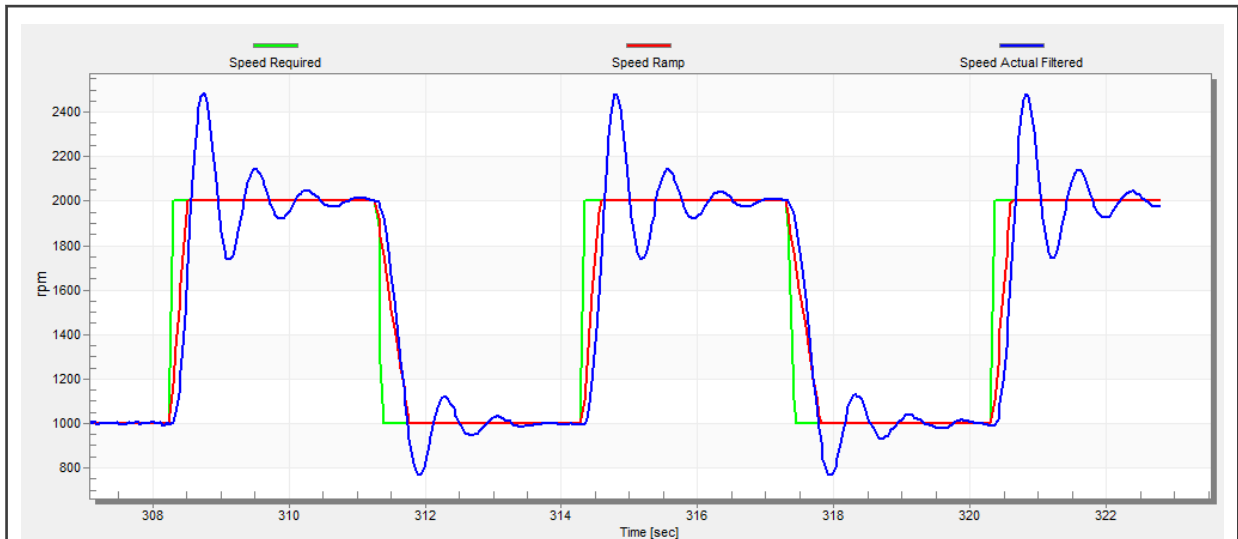

Figure 30. Speed controller response— $SL\_Kp$  value is low, Speed Actual Filtered greatly overshoots
- The “SL\_Kp” value is low, the “Speed Actual Filtered” greatly overshoots, and the long settling time is unwanted (see Figure 30).